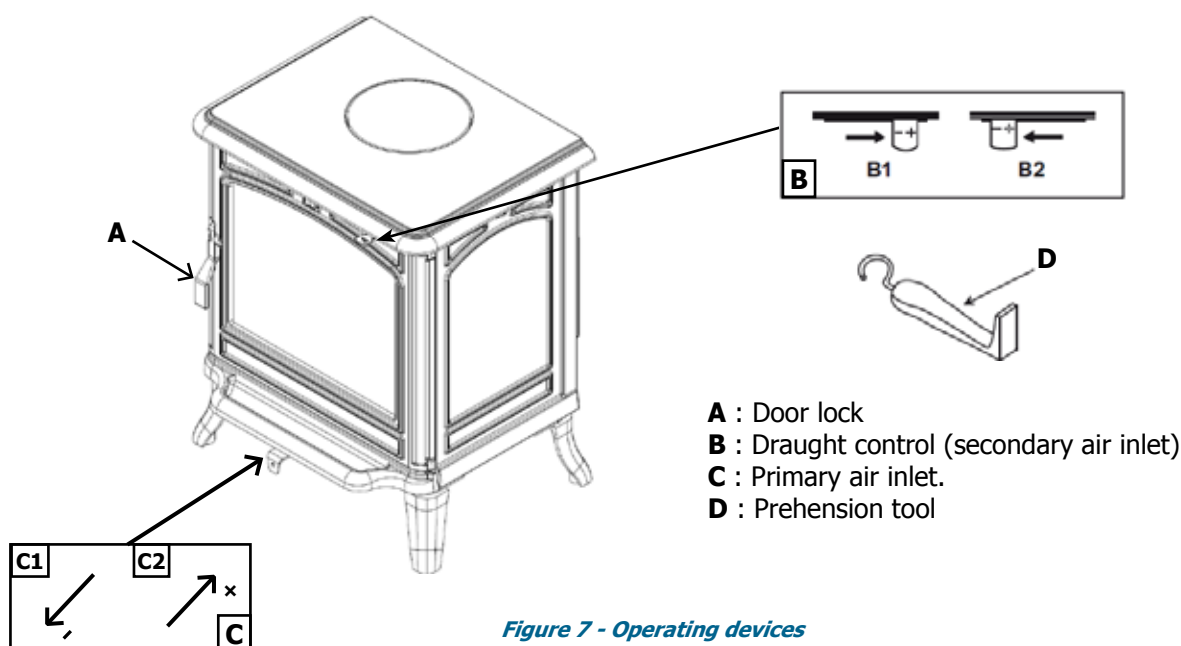

Figure 7 - Operating devices
(Figure 7)
3.3.1. Lighting (Figure 7)